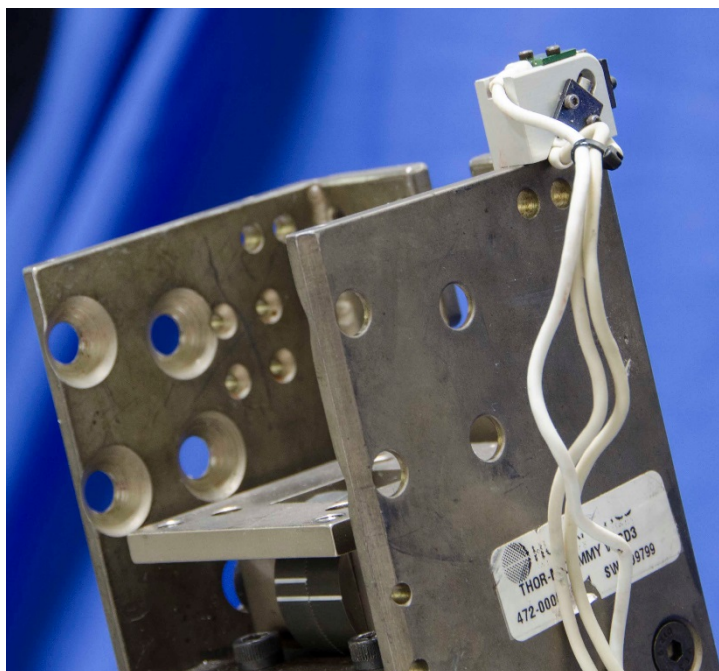

Figure 6-33. Install Z-axis accelerometer to T1 mount
6.2.2.27 Mount the X-axis, Y-axis, and Z-axis accelerometers to the T1 Accelerometer Mount using two M1.4 x 0.3 x 3 SHCS (Figure 6-33) for each accelerometer.